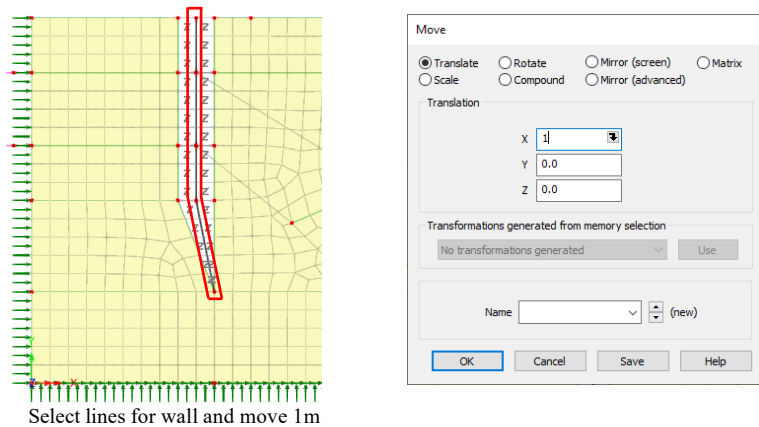

Figure 61: Close gap between wall and soil
- Now select the four lines representing the wall and click on **Geometry > Line > Move...** Enter a distance of **1** in the X direction and click **OK** (figure 61).